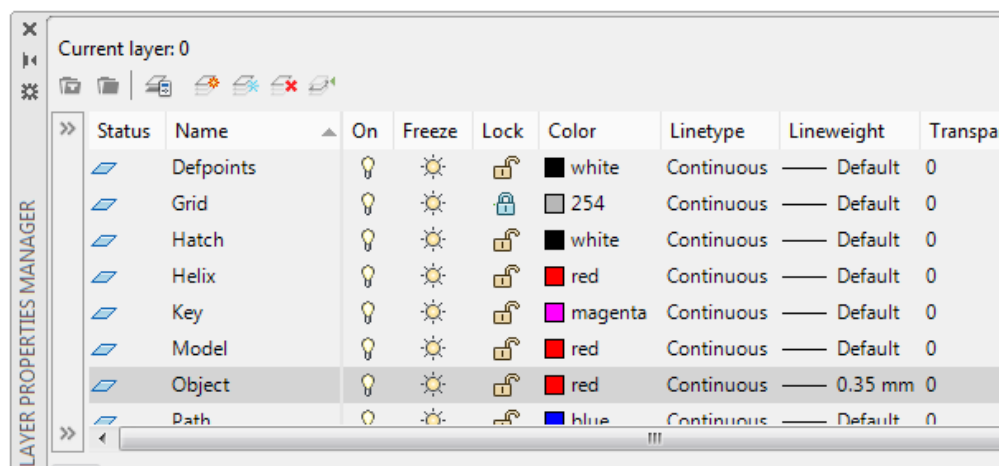

Figure Step 5
Step 5 Lock layer: Grid and set the lineweight of layer: Object to 0.35 mm. (Figure Step 5)